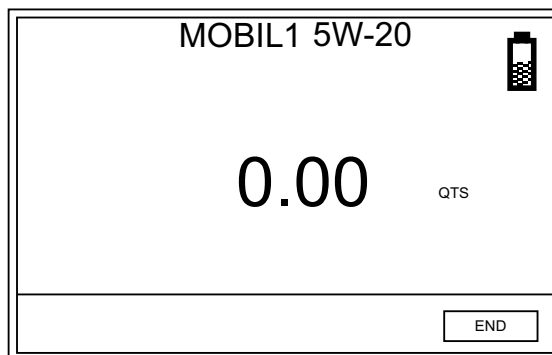

FIG. 31
4. When you have finished the dispense, press the center ENTER button on the meter's keypad to select END (FIG. 31).